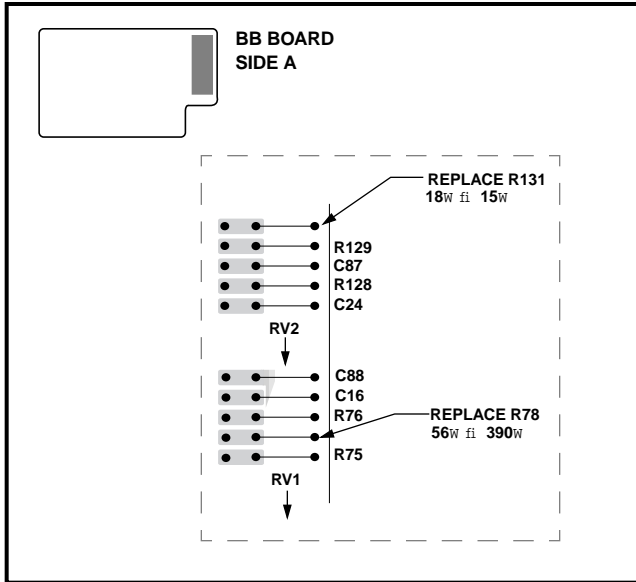

Figure 3
**BB Board, Side A (See Figure 3.)**